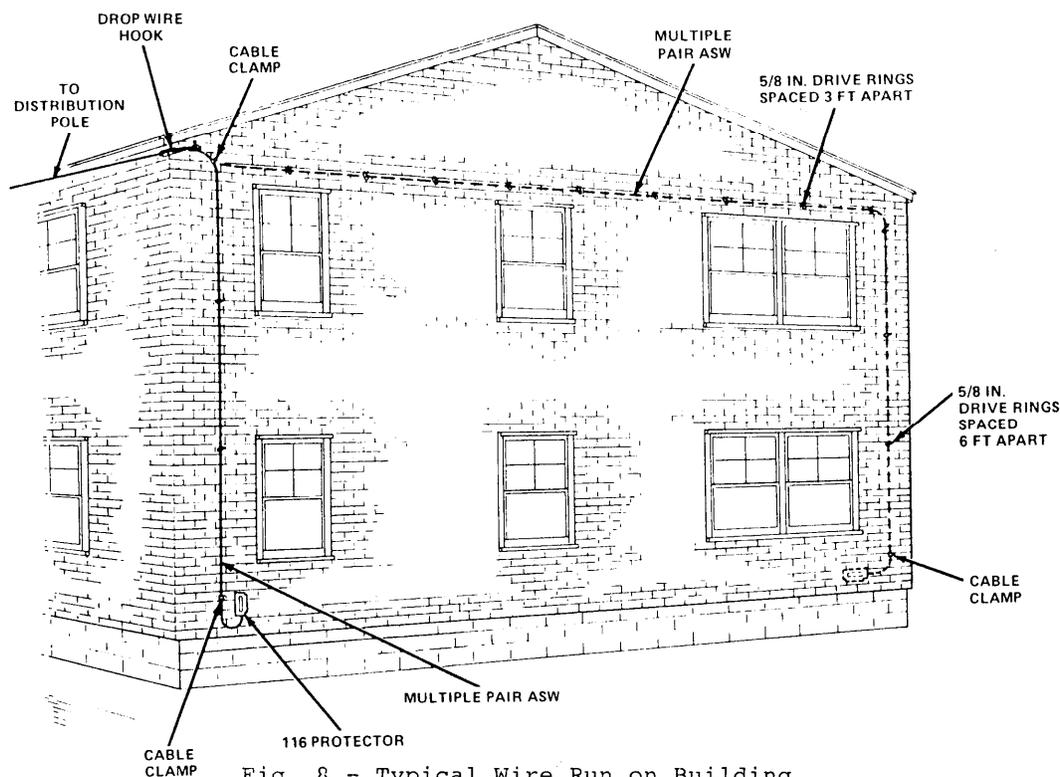

Fig. 8 - Typical Wire Run on Building
4.01 Place multiple pair ASW from the protector to the first attachment (Fig. 8) as follows: